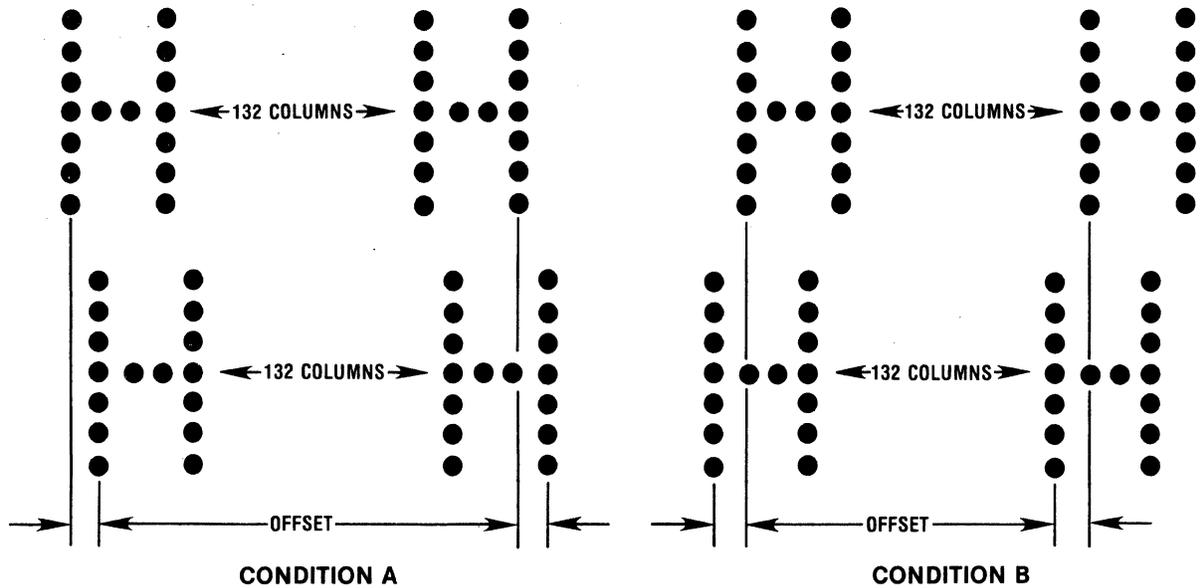
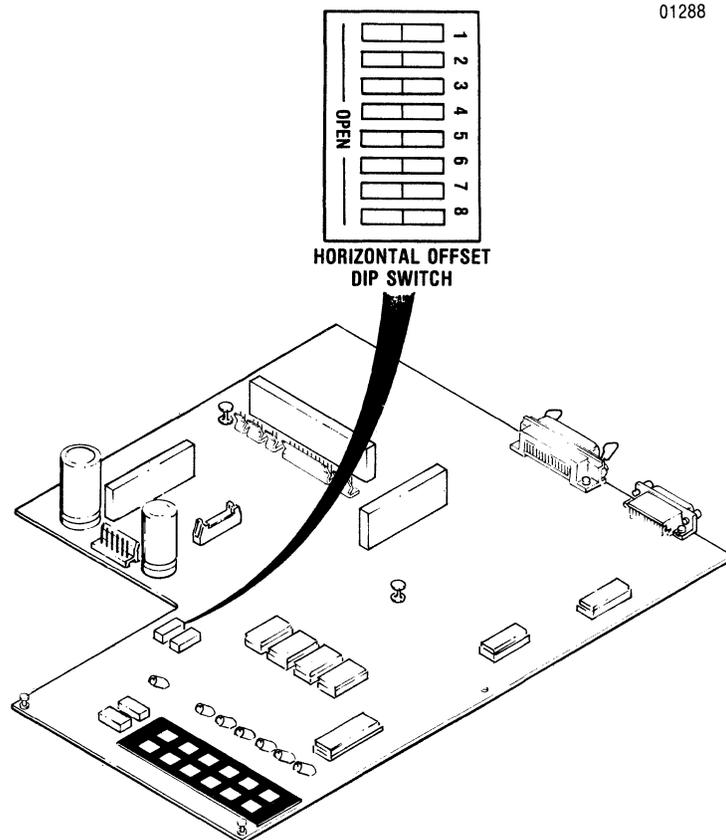

Figure 4-8 Horizontal Offset Print Sample
Figure 4-9 Horizontal Offset Dip Switch
The Formatter/Controller pcb uses 5 positions of dip switch S4 for the horizontal offset adjustment. This procedure adjusts the print position of the line printed in the reverse direction to the left or right so the printed character columns are vertically aligned. To adjust the horizontal offset, refer to Figures 4-8 and 4-9 and perform the following steps:
4. Deselect the printer and compare the first and last columns of printed text to Figure 4-8.
5. If printed text is offset as in condition A of Figure 4-8, close switch #8 if dip switch S4 on the Formatter/Controller pcb (Figure 4-9) to move the print position to the left.
7. If printed text is offset as in condition B of Figure 4-8 open switch #8 of dip switch S4 on the Formatter/Controller pcb (Figure 4-9) to move the print position to the right.